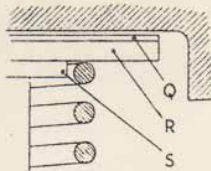

FIG. 20 ARRANGEMENT OF PACKING WASHERS OF BRIDGE PIECE.
Note position of washers (Q) and (R), Fig.20, as the thin ones are used for adjustment. The washer (S) acts as a spigot for return spring.
Adjusting washers (Q), Fig 20, must be removed and replaced until correct air gaps are obtained. Washers are available .004, .008 and .012 in. thick.